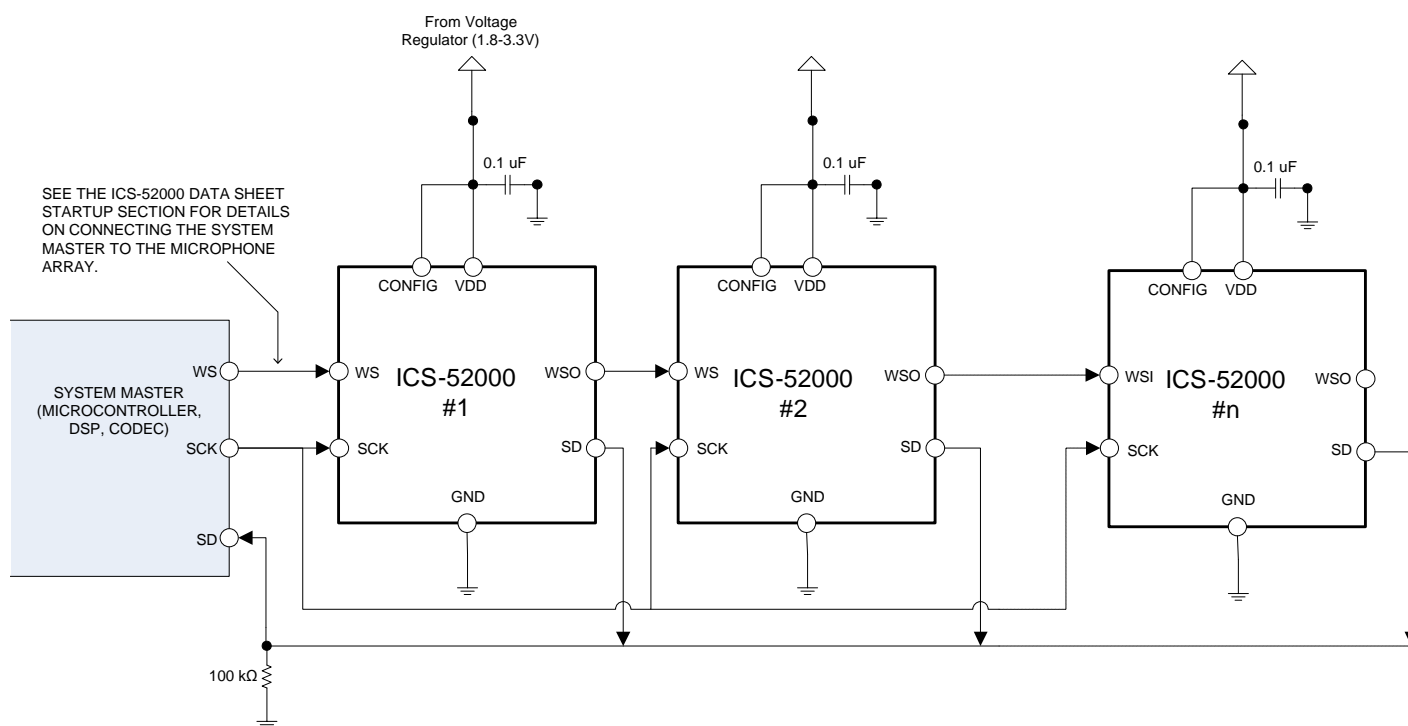

Figure 1. System Block Diagram
The ICS-52000 follows a power-up sequence that ensures that all microphones in a common array will sample synchronously. To ensure this, all microphones in the array should share a common serial clock (CLK) from the system's clock master. This same master should also provide the word select (WS) signal to the first microphone in the array and the WS signal is daisy-chained from the WSO output of one mic to the WS input pin of the next microphone in the array, as illustrated in Figure 1. At start-up, signals are passed from WSO of one microphone to WS of the next microphone in the daisy chain. These signals enable each microphone to enumerate itself on the TDM bus so that it is properly configured to sample at the same time as all other mics in the array.